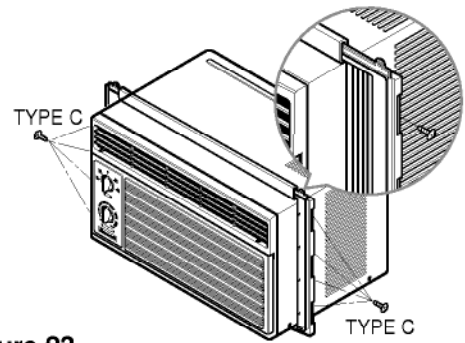

Figure 23
- Step 1. Insert the guide panels into the guides of the air conditioner. Fasten the curtains to the unit with screws (TYPE C), as shown Figure 23.